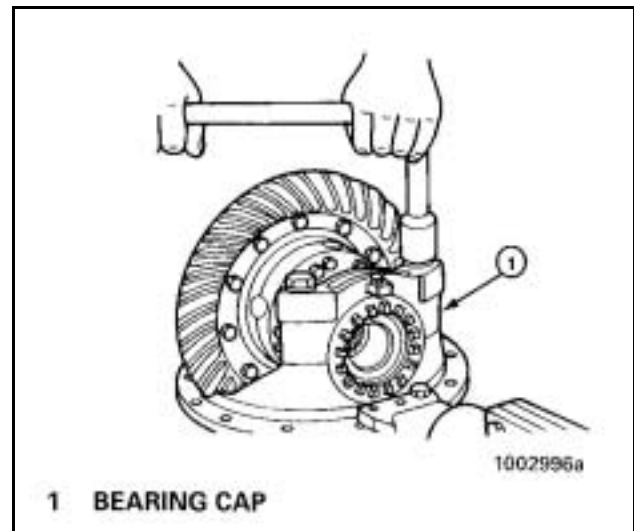

Figure 15
6. Remove the capscrews and washers that hold the two bearing caps on the carrier. Each cap is held in position by two capscrews and washers. **Figure 15.**